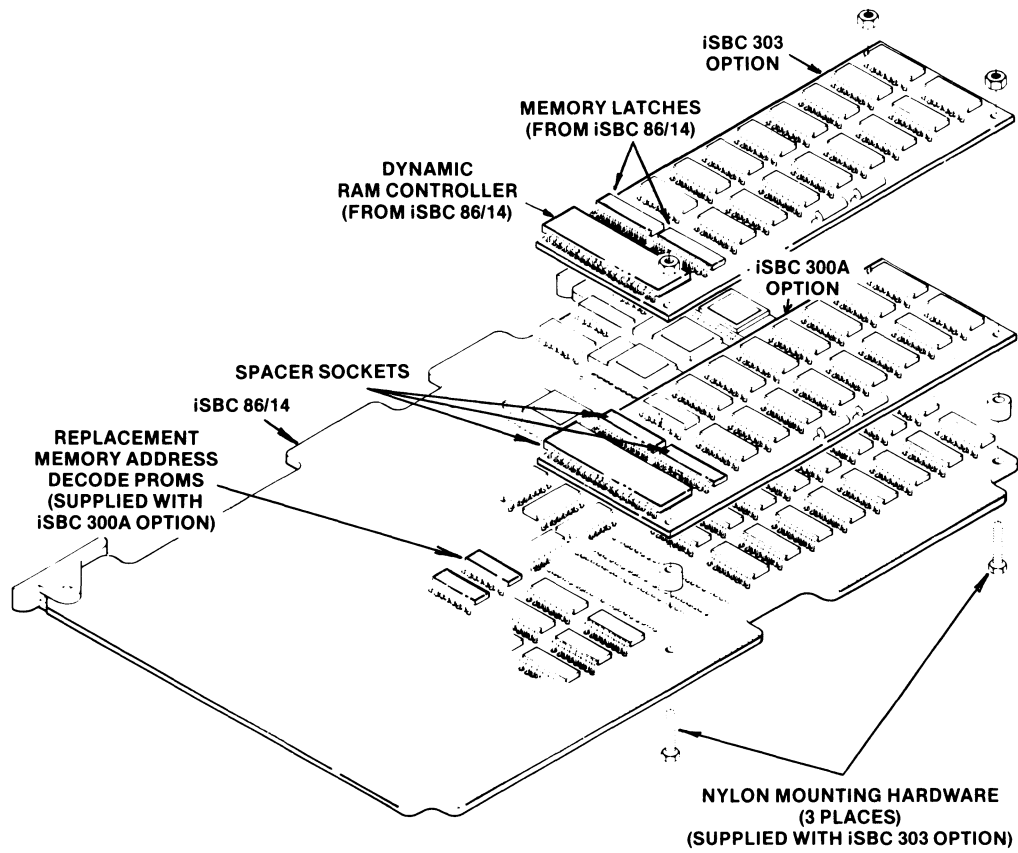

Figure 2-3. iSBC™ 303 Parity and iSBC™ 300A RAM Expansion Multimodule Board
10. Insert the iSBC 303 Parity board mating pins into socket A1 and other mating pins fo the iSBC 300A board, orienting the board as shown in Figure 2-3.
12. Place a nylon spacer (use long spacers) between the iSBC 300A board and the iSBC 303 Parity board at one of the holes shown in Figure 2-3.